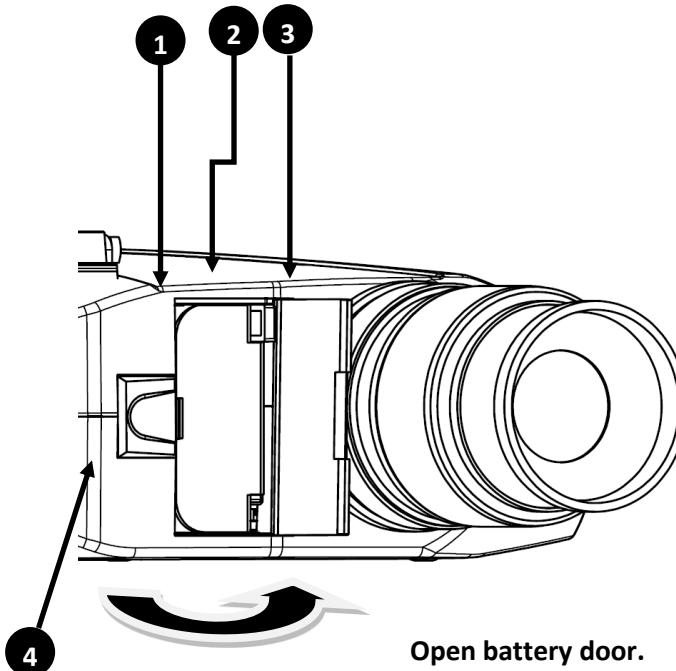

FIGURE 15 - PR-655/670 BATTERY COMPARTMENT CLOSE UP
1. Facing the front of the instrument, slide the battery door latch away from the objective lens until the door opens (See **FIGURE 15**).